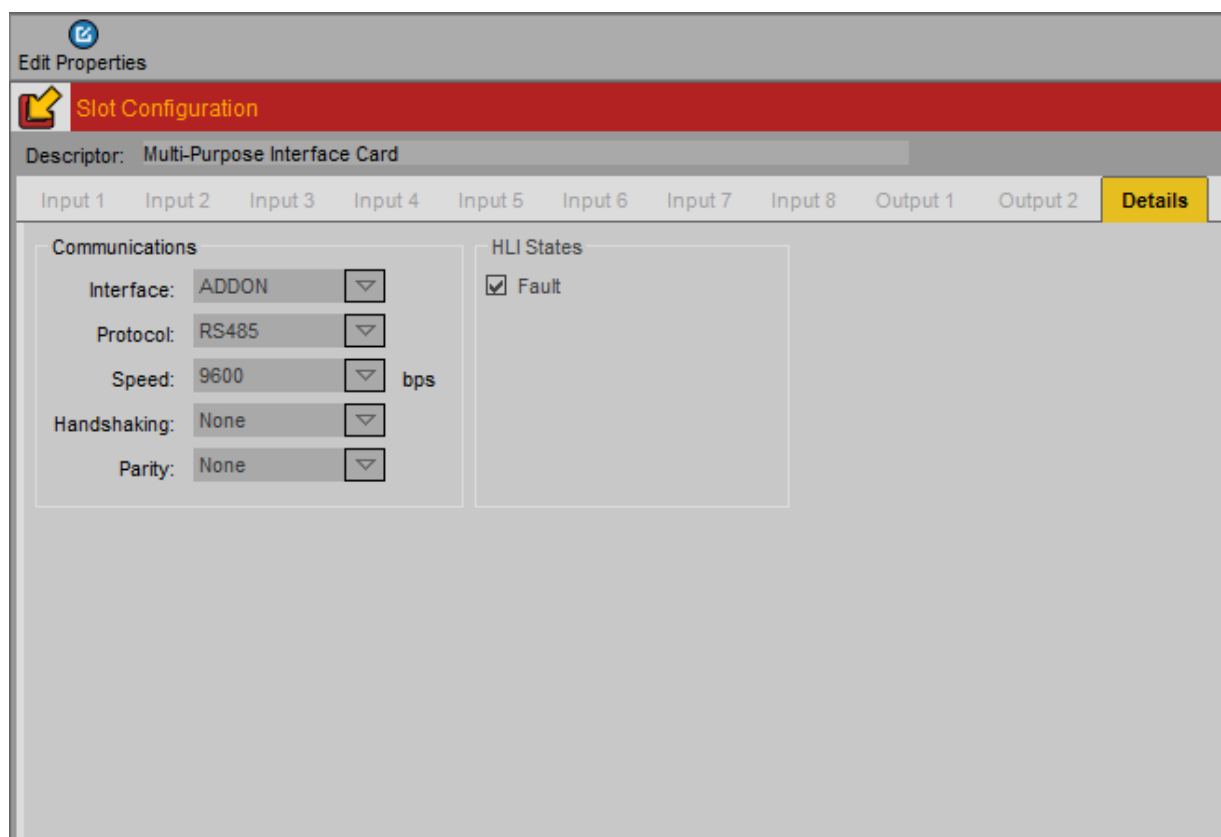

Figure 6-21 Multi-purpose interface card dialogue box
- Eight (8) tabs for the inputs. Each input has a CONFIG and DETAILS tab.
- Two (2) tabs for the outputs. Each output has a CONFIG and DETAILS tab.
- DETAILS tab (figure 6-21). ***The HLI status options – Tick boxes explain the signals sent.***